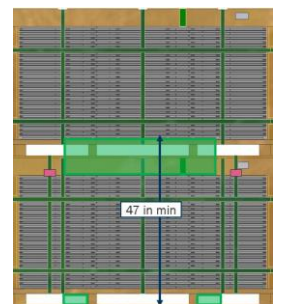

Figure 1: Contact point for stacked packs. Mast must be at least 47 inches in height.
- Forklift mast **must** contact both pallets in a stack. See Figure 1.